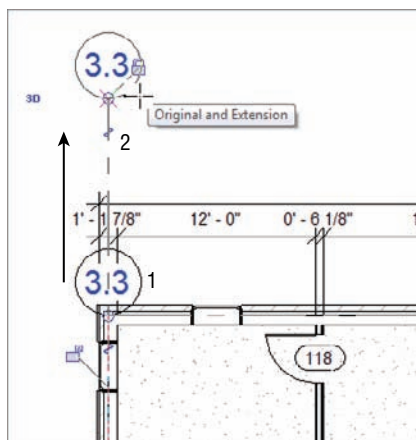

FIGURE 8.15 Dragging the new bubble out of the wall
5. When you pick the wall, the grid is added. It will not be the name or number you want. You will change that. But first, pick the round blue grip and drag the bubble up past the dimensions, as shown in Figure 8.15.